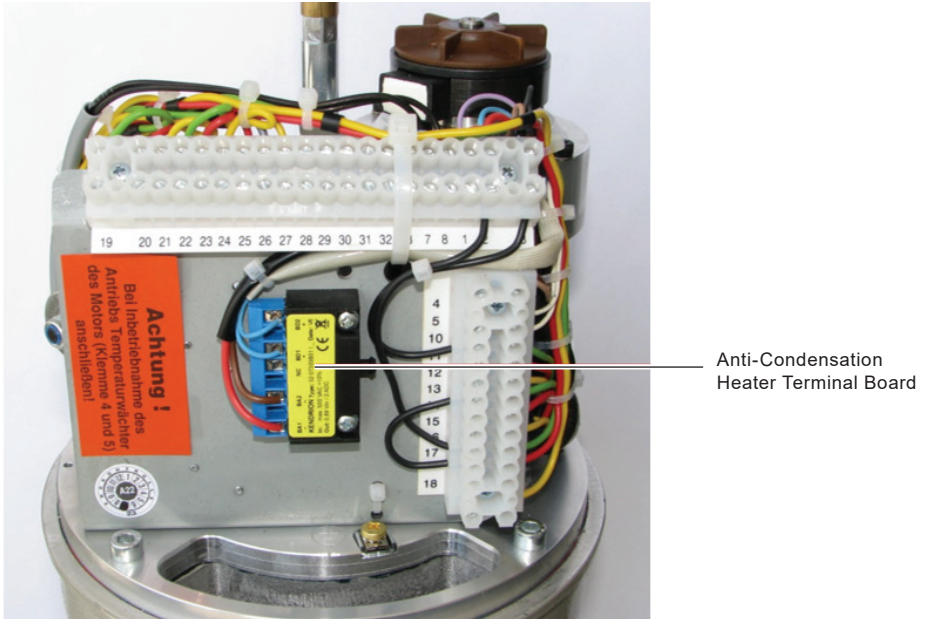

Fig. 20 Anti-Condensation Heater Installation 8-20 KN (1798 - 4496 lbf)
- Refer to Fig. 20 "Heater Installation 8-20 kN (1798 - 4496 lbf)" for product orientation